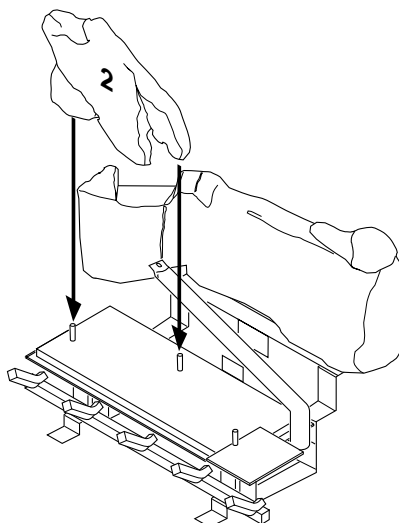

Figure 54 - Installing Log Assembly No. 2
2. Place log #2 (two log assembly) onto pins on left front and middle section of the front burner (see Figure 54).